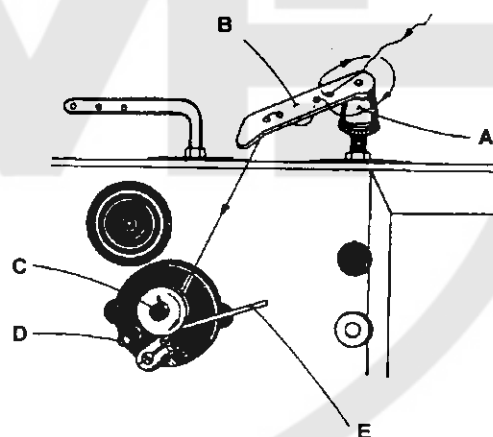

Fig. 8
As shown in Fig. 8, lead the thread from the bobbin stand through the thread guide (B) situated on the machine head to the thread tensioner (A) and then on the hook bobbin mounted on the shaft (C) of the bobbin winder, make a few thread turns clockwise on the bobbin, and lead it to the spring (D), insert it between its threads, trim it by the knife placed inside the spring, and set the bobbin winder in operation by depressing the lever (E). After the thread has been wound on the bobbin, the bobbin winder is disengaged automatically. Remove the full bobbin from the shaft and trim the thread either with the knife situated in said spring (D) or with scissors. The thread tensioner (A) serves to adjust the thread tension while being wound.